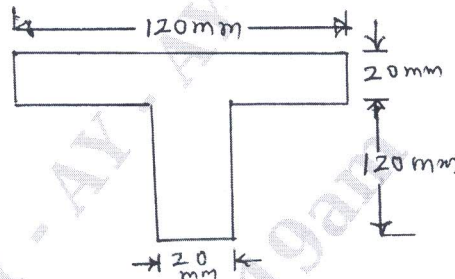

Fig.Q.9(c)
c. A T-section shown below in Fig.Q.9(c) is used as simply supported beam over a span of 4m. It carries a udl of 8kN/m over its entire span. Calculate maximum tensile and compressive stresses in the beam. (08 Marks)